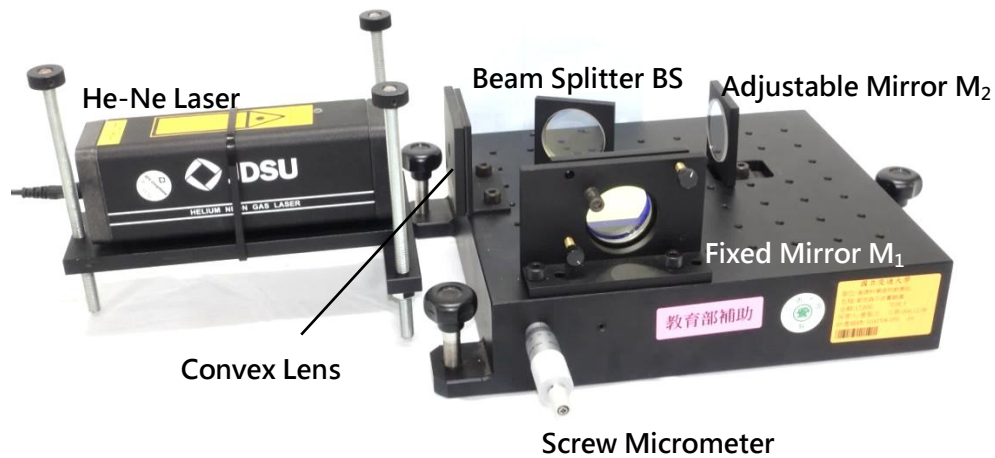

Figure 5. Photo of experimental set-up I.
1. Begin by assembling the experiment as shown in figure 5. (without the convex lens at the front of the interferometer)